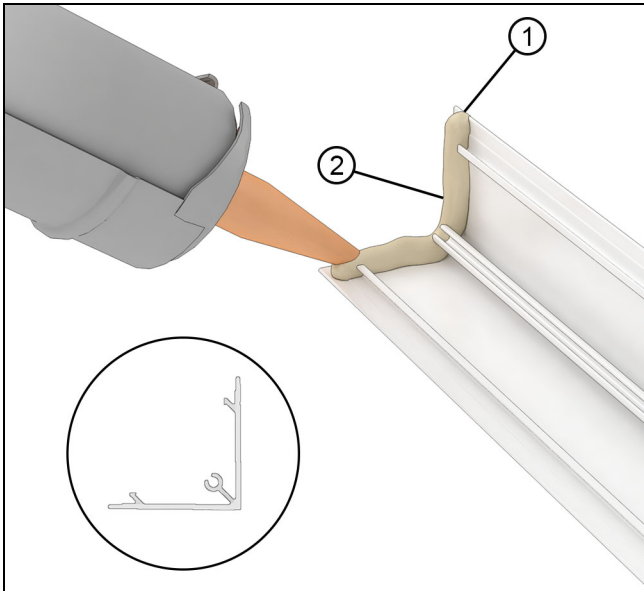

Figure 50
17. Apply silicone to the top end of the exterior corner cap. See Figure 50.